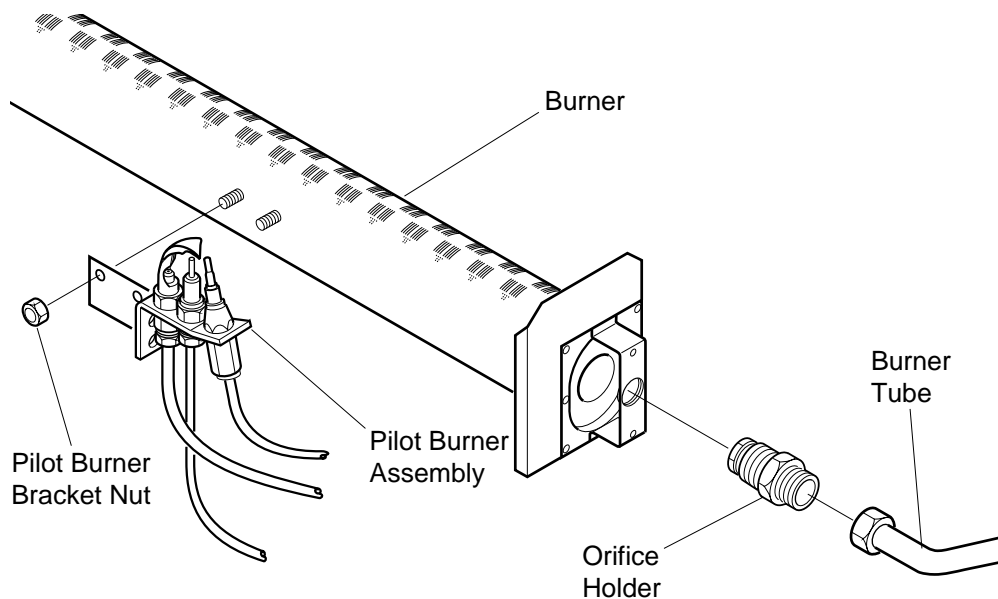

Figure 19 - Removing Burner Tube, Orifice Holder, and Pilot Burner Assembly (35,000 BTU/Hr Burner Shown)
3. Disconnect burner tube from orifice holder (see Figure 19).
4. Remove orifice holder from burner (see Figure 19).
5. Remove pilot burner bracket nuts and remove pilot assembly (see Figure 19).